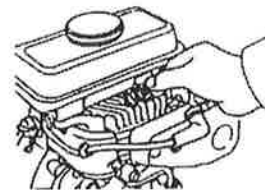

Fig. 19
4. Check if the spark plug gasket is in good conditions, or replace with a new one. Screw on the spark plug to the bottom first by hand to prevent cross – threading (Fig. 19).
The hole in throttle is used for mounting control steel wires. Fig. 19 shows how to mount a stiff steel wire.